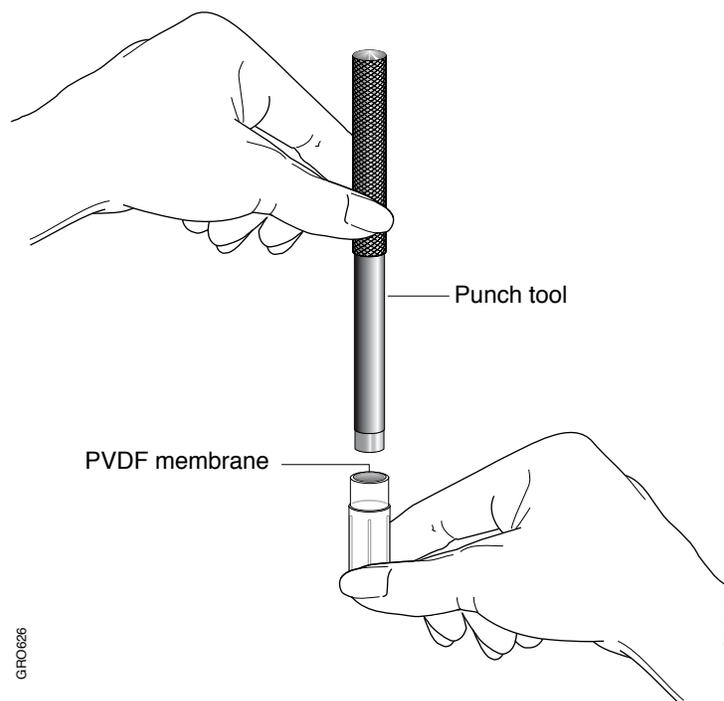

Figure 3-3 Punch the PVDF membrane into the ProSorb sample reservoir insert
5. Keeping the cap closed, carefully push the PVDF membrane into the sample reservoir insert using the punch tool (Figure 3-3).